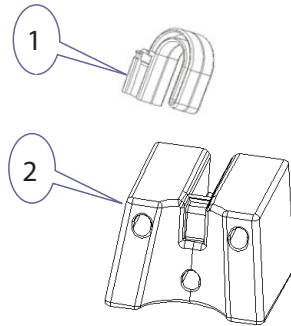

Fig. 8
1. The Wall Mount Assembly includes the Wall Mount Holder (1) and the Wall Mount Base (2)(see Fig. 8). Fasten the Wall Mount Base to the wall with the screws in the accessories polybag (included to the set).